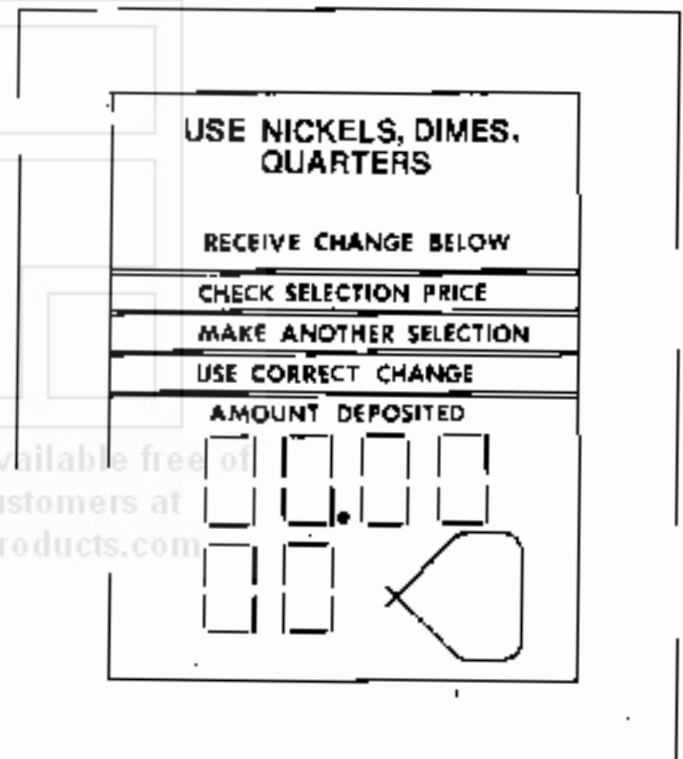

Figure 14.
- B. Press button 1 on the selection panel and the display will show "00.00" (Figure 14). This is the price display and can be incremented up by pressing button 11 and down by crossing button 12. Increments are 5¢. **CAUTION:** Any selection programmed at "00.00" will free vend.